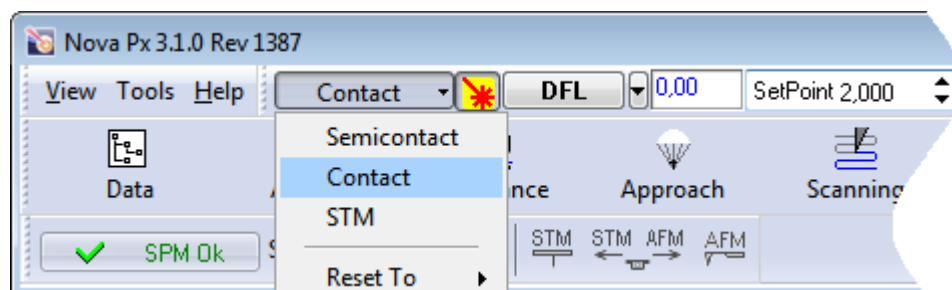

Fig. 12-11. Selecting the controller configuration
1. In the controller configuration drop-down list of the Nova Px program, select **Contact** (Fig. 12-11).